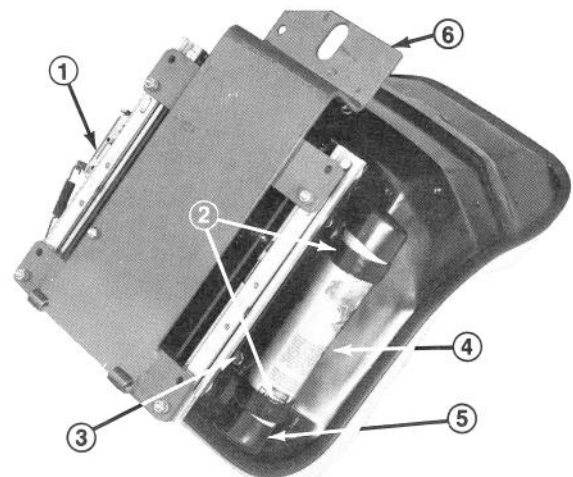

Figure 11
7. Assemble seat suspension assembly to four capscrews on seat bottom with (4) lockwashers, flatwashers and nuts (Fig. 11).
8. Loosely secure (2) R-clamps to right side of seat bottom with (2) capscrews supplied in kit. Install manual tube into R-clamps and tighten capscrews (Fig. 11).
9. Mount seat support over four threaded studs at the bottom of seat suspension assembly and secure in place with lockwashers and nuts (Fig. 11).